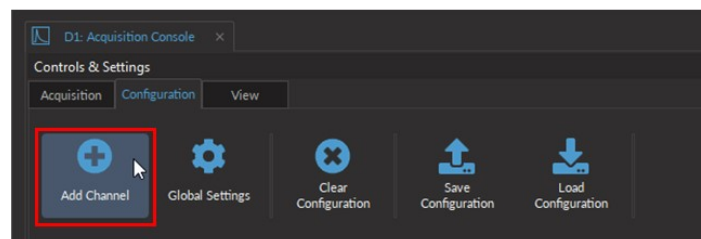
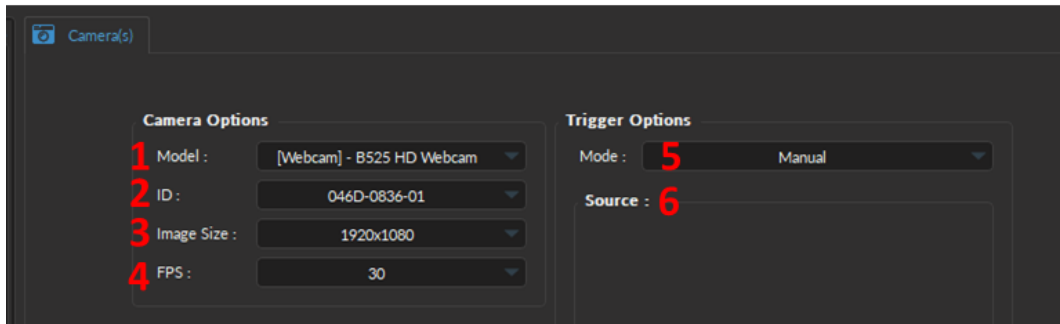

Figure 6.16: Add Channel button opens the Channel Configuration window
Figure 6.17: Channel(s) configuration window, Camera Channel
To create a **Camera Channel** in the **Acquisition Console** module, select the *Add Channel* button, which can be found under the *Configuration* tab (Fig. 6.16). This will open the *Channel(s) Configuration* window (Fig. 6.17).
1. The **Model** (Fig. 6.17, 1) allows you to select the camera of choice based on the type of camera.
2. **ID** drop-down list (Fig. 6.17, 2) selects a camera based on its unique ID. The ID is particularly useful if multiple cameras of the same model are required for the experiment.
3. The **Image Size** (Fig. 6.17, 3) sets the resolution of the image. The larger the number of pixels used for width x height, the better the resolution. Currently, image size can range between 160x120 to 1920x1080 pixels.
4. The **FPS** (Fig. 6.17, 4) specifies the frame rate of the camera (i.e. the number of images displayed per second). FPS can be any value between 5 and 30 for web cameras and up to 60 FPS for the *Doric Behavior Camera*.
5. The **Mode** (Fig. 6.17, 5) sets the type of trigger that will control the camera. Depending on the type of camera, at most three modes are available:
6. The **Source** (Fig. 6.17, 6 & Fig. 6.19) is only used for the **External (Preconfigured)** mode and displays the **Digital I/O** channel with the preconfigured parameters that will be created at the same time as the **Camera Channel** (Fig. 6.19). For a detailed description of each Digital I/O parameter see the corresponding section in the Fiber Photometry System Manual (Section 5.4.3). Briefly, key parameters include: